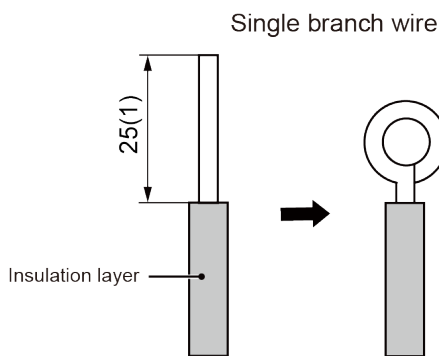

Fig. 5.1
- (1) The connection of wire (as shown in Fig. 5.1).